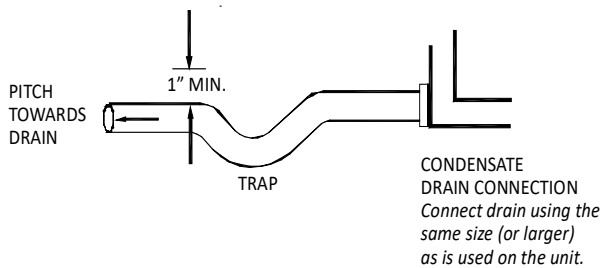

Figure 16
- In a blow-through application, the drain trap prevents conditioned air from escaping. It is permissible in this application to use a shallow trap design, sometimes referred to as a running trap. The depth of a running trap (Figure 16) should be either 1" or a depth that permits unrestricted condensate drainage without excessive air discharge.